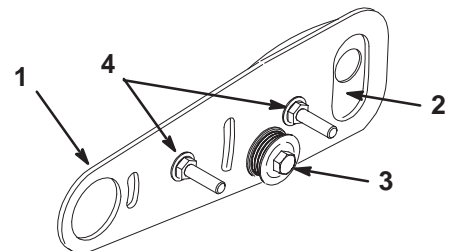

Figure 1
On left front, rear and wing (RM 6700 only) cutting units, roller brush assemblies must be reversed to mount on opposite end of cutting unit as follows (Fig. 1 & 2):
- Guard plate must be removed and mounted to opposite side of pivot plate (Fig. 1).
- Idler bearing assembly must be removed and mounted to opposite side of pivot plate (Fig. 1).
- Cover mounting bolts, washers and flange nuts must be removed and mounted to opposite side of pivot plate (Fig. 1).